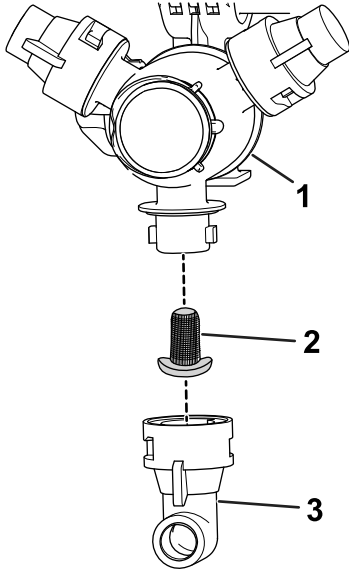

Figure 107
2. Remove the nozzle from the spray turret (Figure 107).
3. Remove the old nozzle filter (Figure 107).
4. Install the new nozzle filter (Figure 107).
5. Install the nozzle onto the spray turret (Figure 107).